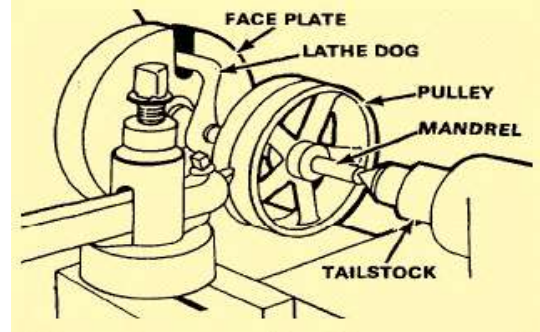

Figure 7-35. Pulley mounted on a mandrel.
**Mounting Work on Mandrels:** To machine a workpiece of an odd shape, such as a wheel pulley, a tapered mandrel is used to hold and turn the work and lathe dog must be used. Ensure that the lathe dog is secured to the machined flat on the end of the mandrel and not on the smooth surface of the mandrel taper. If expansion bushings are to be used with a mandrel, clean and care for the expansion bushings, and always feed the tool bit in the direction of the large end of the mandrel, to avoid pulling the work out of the mandrel. If facing on a mandrel, avoid cutting into the mandrel with the tool bit. (Figure 7-35).